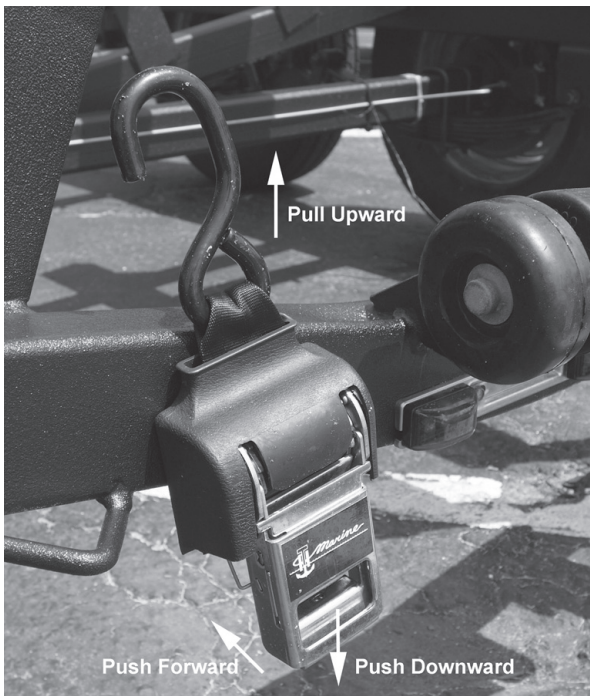

Figure S13: Rear Tie Down Strap - Release
1. Place two fingers on spring-loaded release and push release downward while pushing the handle forward towards the trailer. See Figure S13.